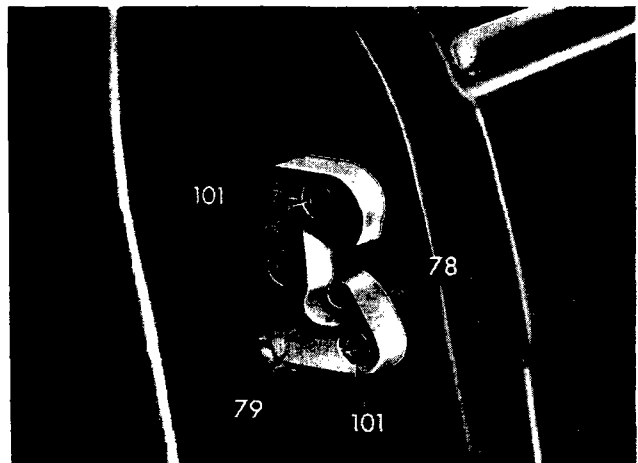

Fig. 75. Door lock striker plate
1. **To Remove** (Fig. 75)
- (a) Remove three screws (101) and release the striker plate (78) from the "B" post.
- (a) Slacken three securing screws (101).
- (c) Finally re-tighten the securing screws (101).